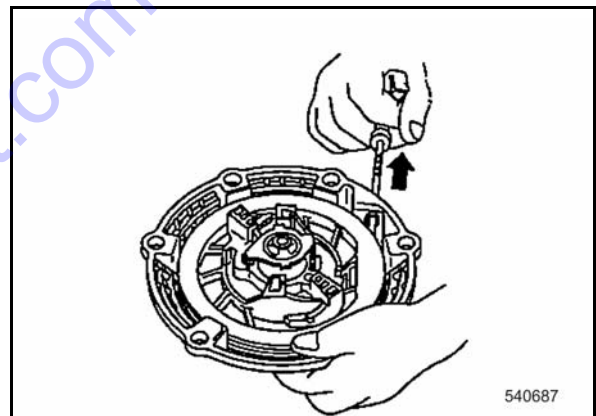

Fig. 68
- Pull the starter rope completely out by the starter handle (Fig. 68).